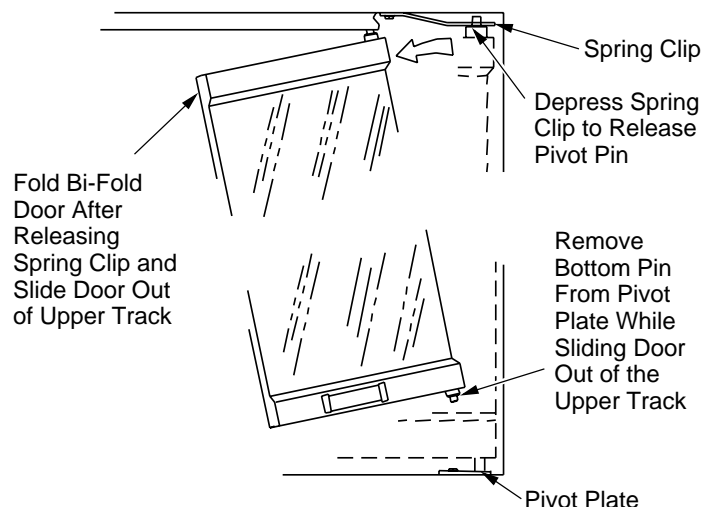

Figure 34 - Removing Glass Doors
2. Fully fold the frame assembly and slide the upper edge towards the center of the firebox opening until the guide pins are free of the frame rail (see Figure 34).